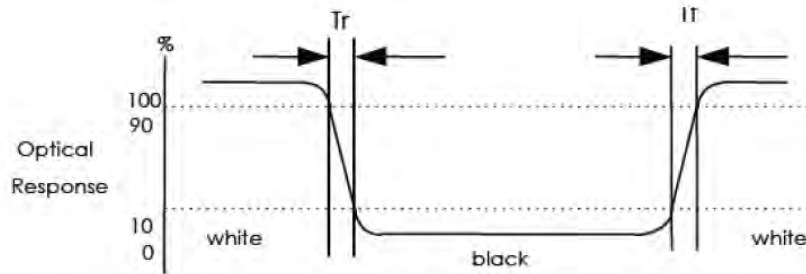

FIG 2. Measuring method for contrast ratio, surface luminance, Luminance uniformity, CIE (x,y) chromaticity.
Note 1. Contrast Ratio (CR) is defined mathematically as for more information see FIG 2.
Note 2. Surface luminance is the LCD surface luminance with all white pixel. For more information see FIG 2.
Note 3. The luminance uniformity is determined by measuring luminance at each test position 1 through 9, and the maximum luminance of 9 points luminance by minimum luminance of 9 points luminance. For more information see FIG 2.
Note 5. CIE (x,y) chromaticity, The x,y value is determined by measuring luminance at each test position 1 through 9, and then make average value. For more information see FIG 2. The test equipment is CS2000.